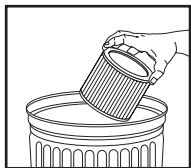

FIGURE 24
44. To clean cartridge filter shake or brush off excess dirt. **FIGURE 24.**